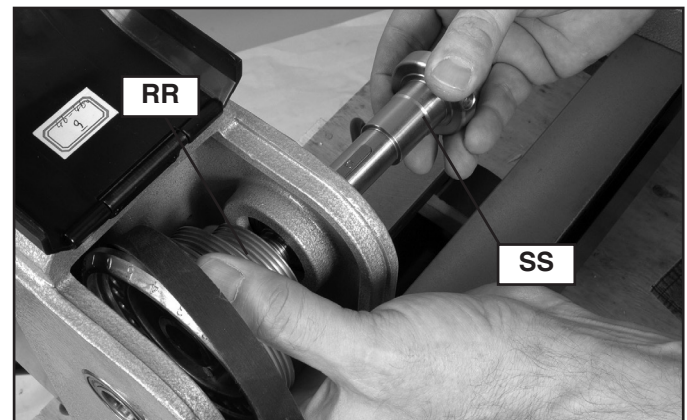

Fig. 34
8. Grasp spindle pulley (RR) Fig. 34 with one hand and slide spindle shaft (SS) out with other hand in the tailstock direction.